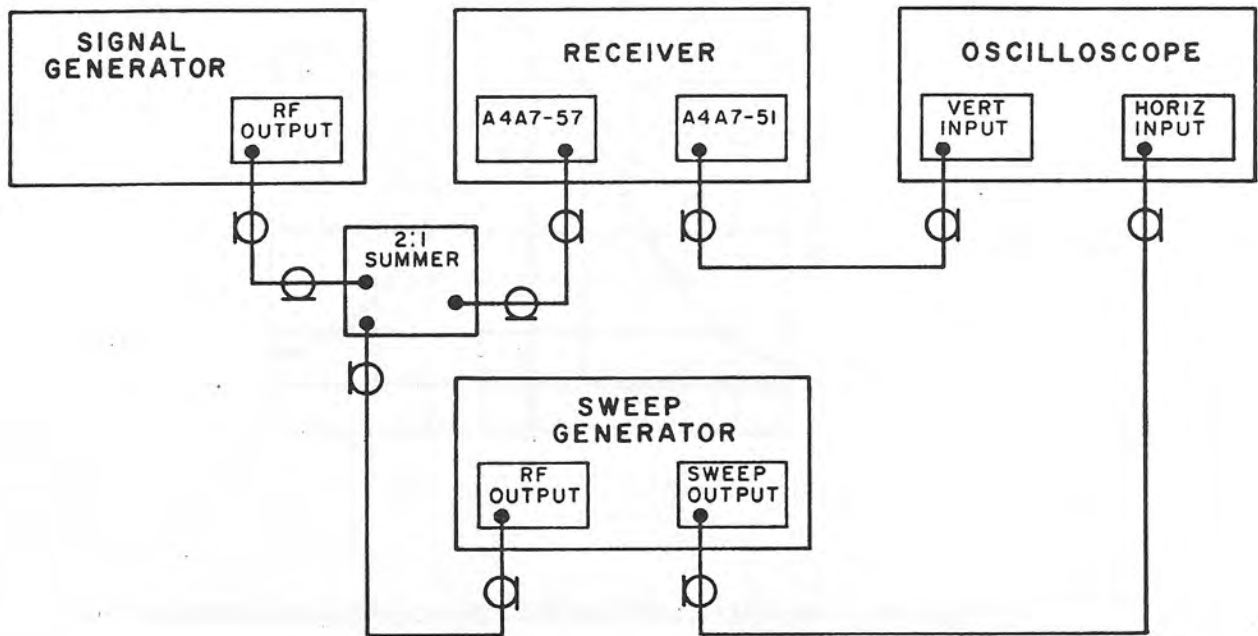

Figure 6-6. 455 kHz Amplifier/Am. Detector Response Alignment, Test Setup
(1) Test equipment required. The following equipment will be required for this test. Refer to table 1-3 for specifics.
(2) Procedures.
- (d) Connect test equipment as shown in figure 6-6.